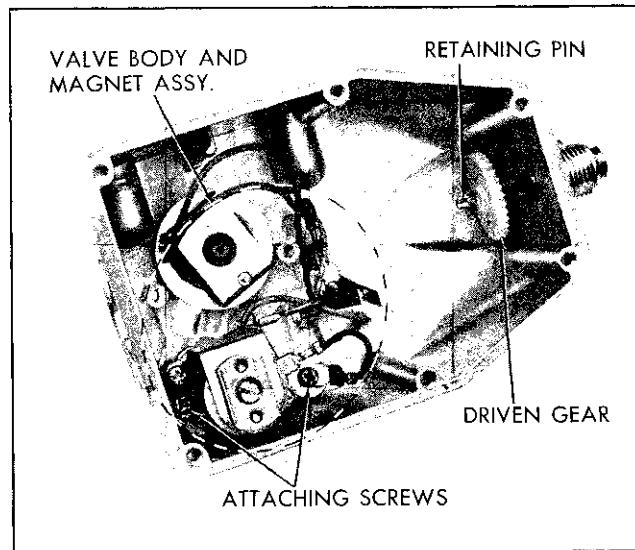

Fig. 15-9 Valve Body and Magnet Assy.—Removal
6. Remove four screws (2 internal, 2 external) holding the valve body and magnet assembly. Remove valve body and magnet assembly from the regulator housing. (Fig. 15-9).